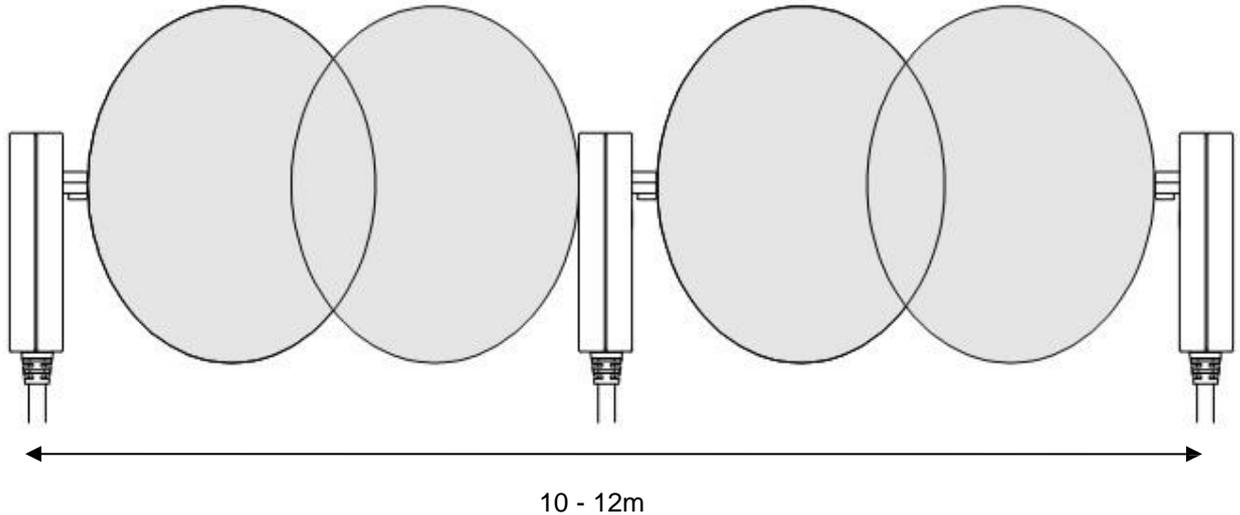

Figure 6: RA30 & RA30B Spacing
- Figure 6: RA30 & RA30B Spacing 7